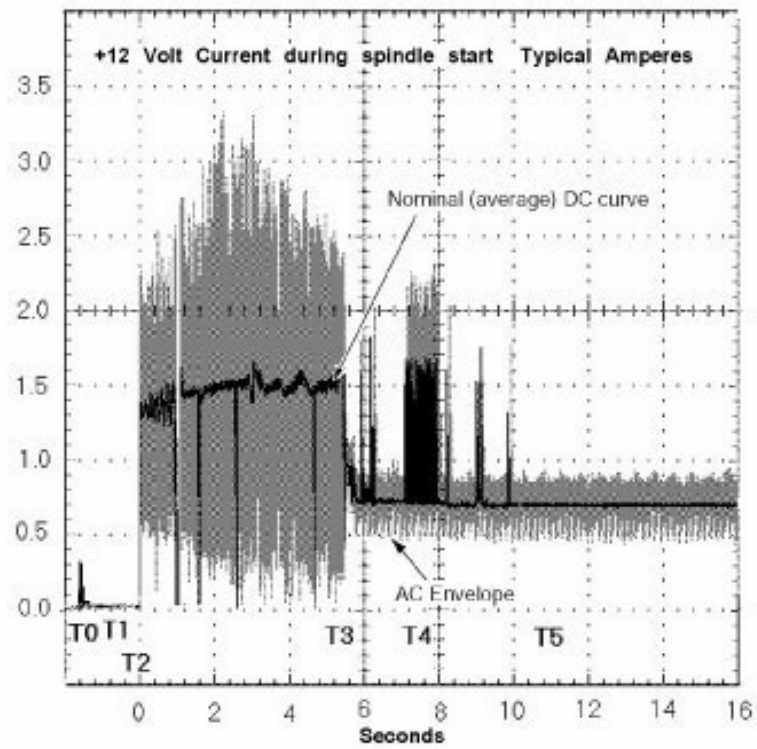
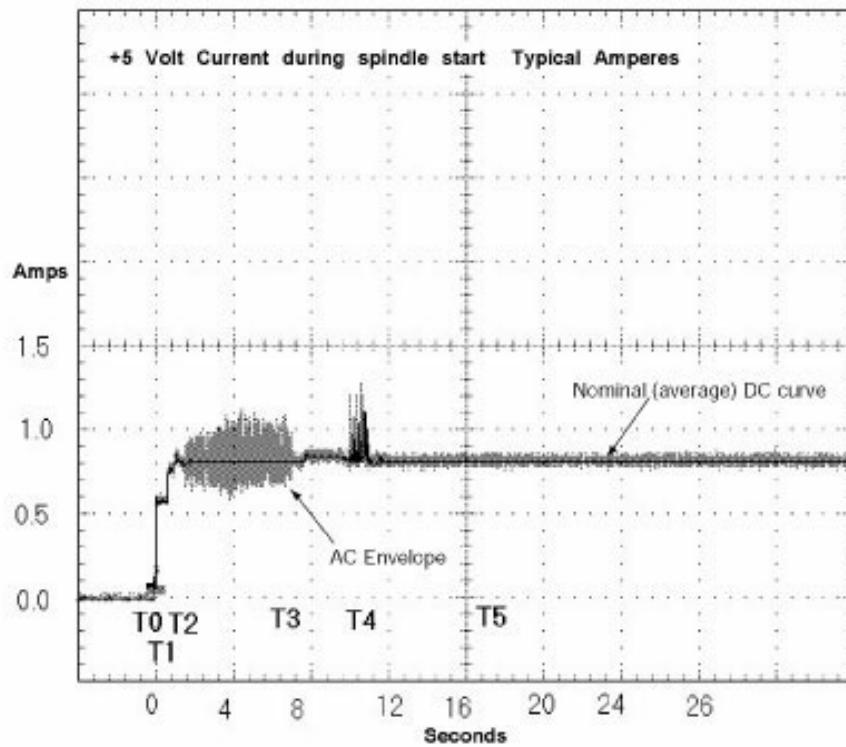

Figure 2. Typical ST373453 drive +12 V current profile
Figure 3. Typical ST373453 drive +5 V current profile
- [3] See +12 V current profile in Figure 2.
Figures 2, 4 and 6 identify the drives +12 V current profile for each model. Figures 3, 5 and 7 identify the drives +5 V current profile for each model. The current during the various times is as shown: